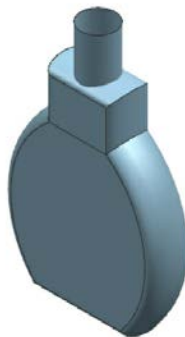

Figure 11-56 Resulting extruded surface
2. Extrude this sketch through a distance of 25 mm in the downward direction. The resulting surface model is shown in Figure 11-56.